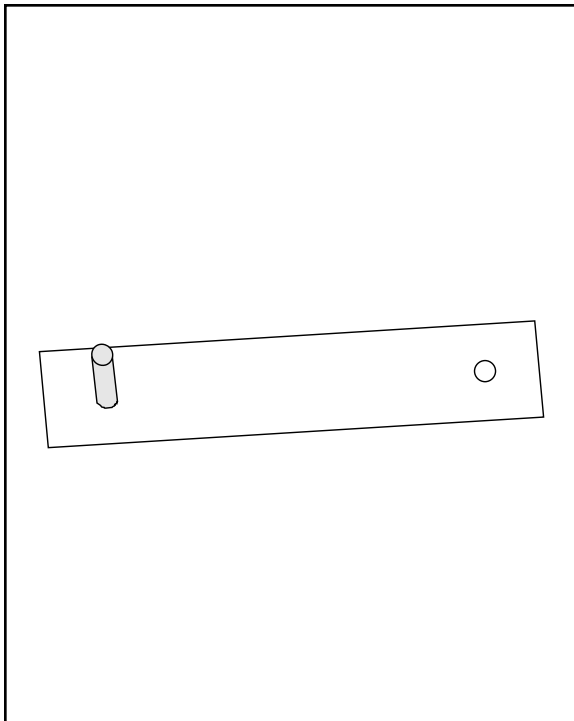

Figure 4. Compass Tool
3. Remove the compass tool from the parts bag that came with the back box (refer to Figure 4). Press the stud of the compass tool into the hole in the ceiling. Insert a pencil in the hole in the other end of the compass and mark a circle on the ceiling.
4. Remove the compass tool from the parts bag that came with the back box (refer to Figure 4). Press the stud of the compass tool into the hole in the ceiling. Insert a pencil in the hole in the other end of the compass and mark a circle on the ceiling.